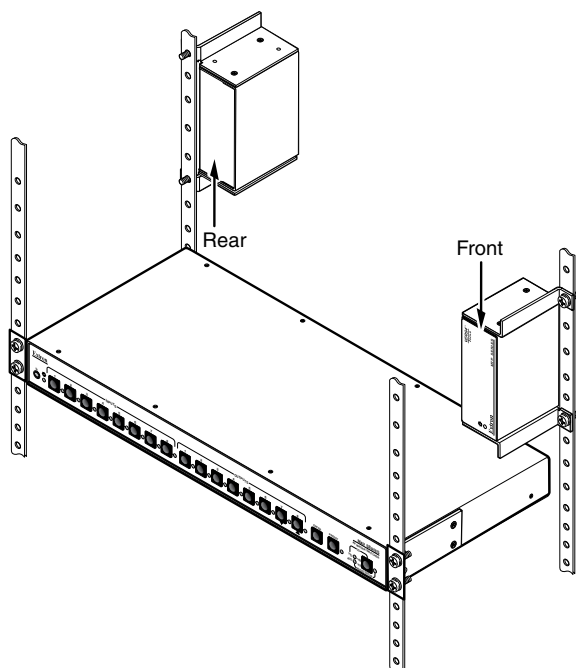

Figure 11 — Typical back of the rack installations
5. Mount the unit to the rack using the two included rack screws (figure 11). The MTP can be vertically mounted facing in either direction.